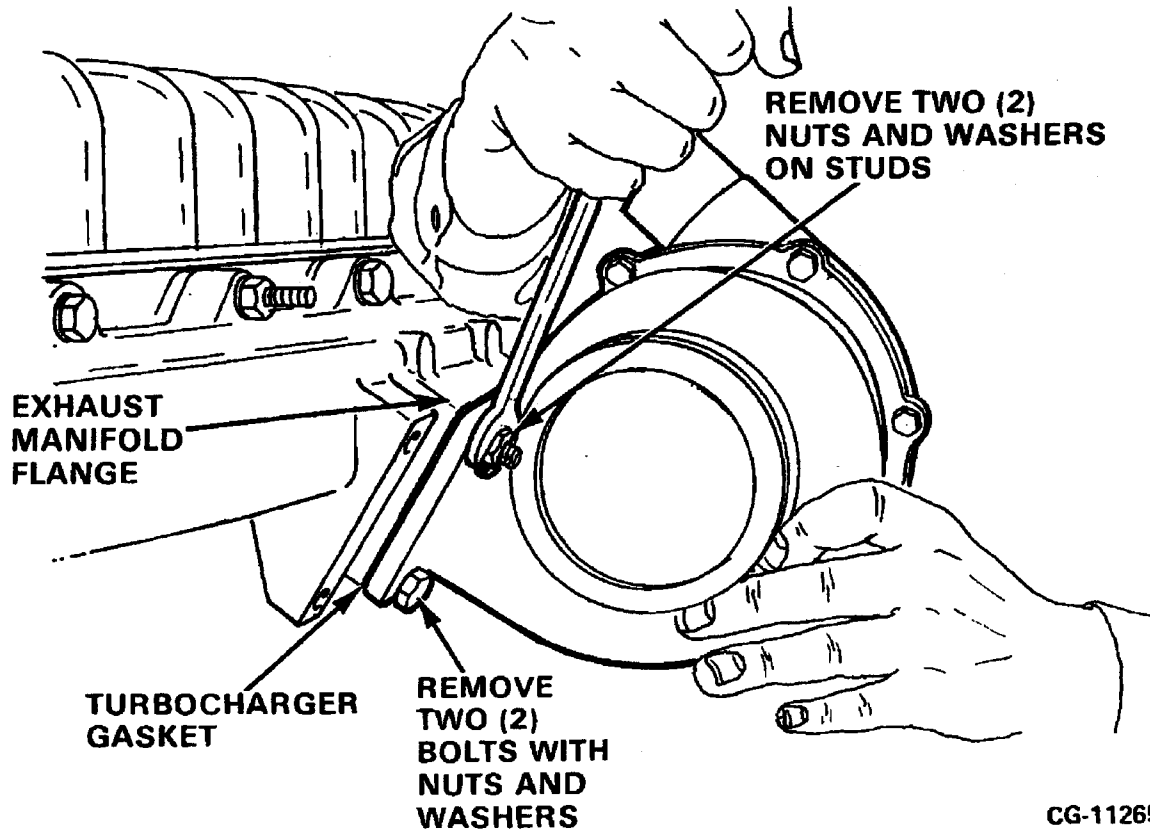

Figure 2.9. Removing Turbocharger Assembly from Exhaust Manifold
4. Remove turbocharger assembly from exhaust manifold. (See Figure 2.9.)